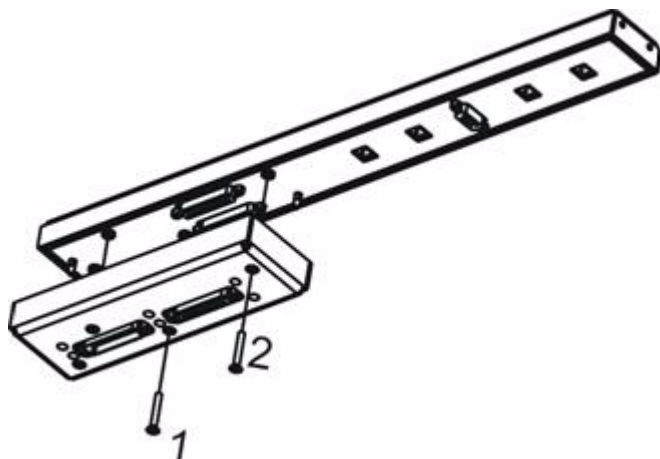

Figure 25 Mounting the Screws [1]
5. Mount the four screws. The screws must be installed in the order shown in **Figures 25** and **26**.